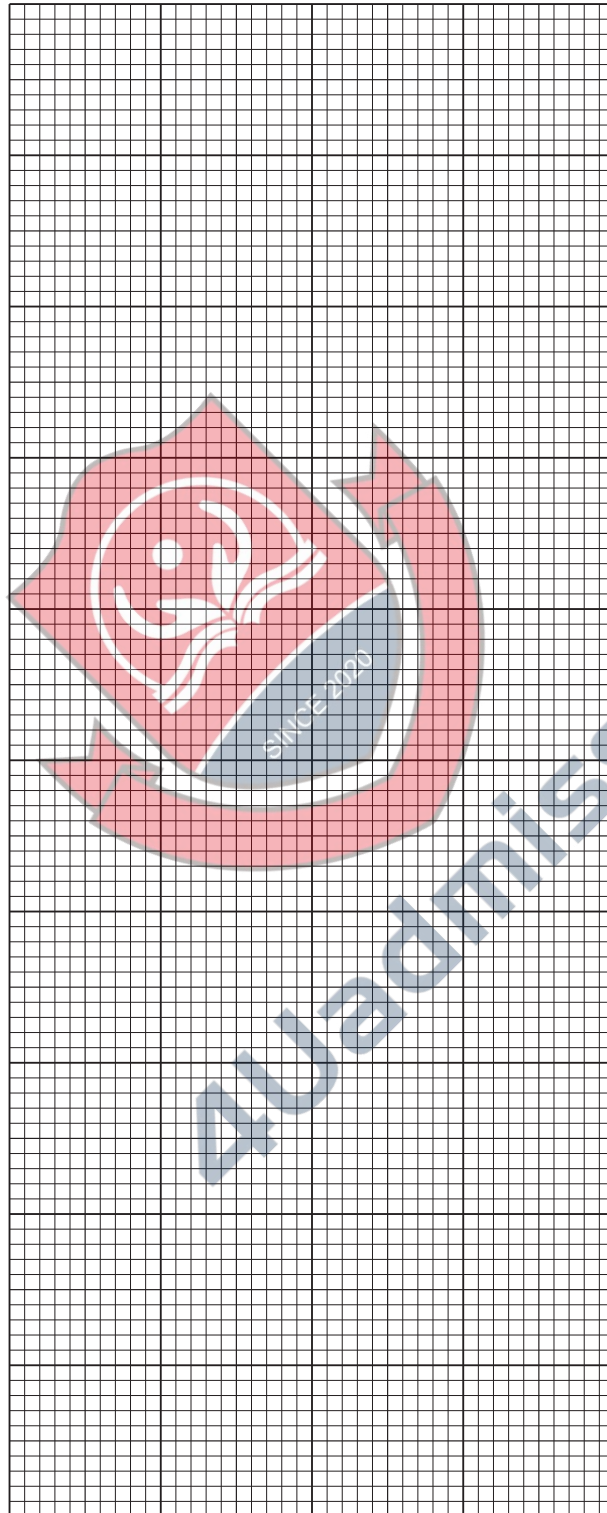

Fig. 1.2
(iii) Plot a graph of the **mean** data in Table 1.1 on the grid in Fig. 1.2.
- (iv) Use your graph in Fig. 1.2 to estimate the concentration of sucrose solution that would result in **no** change in mass of the potato pieces.